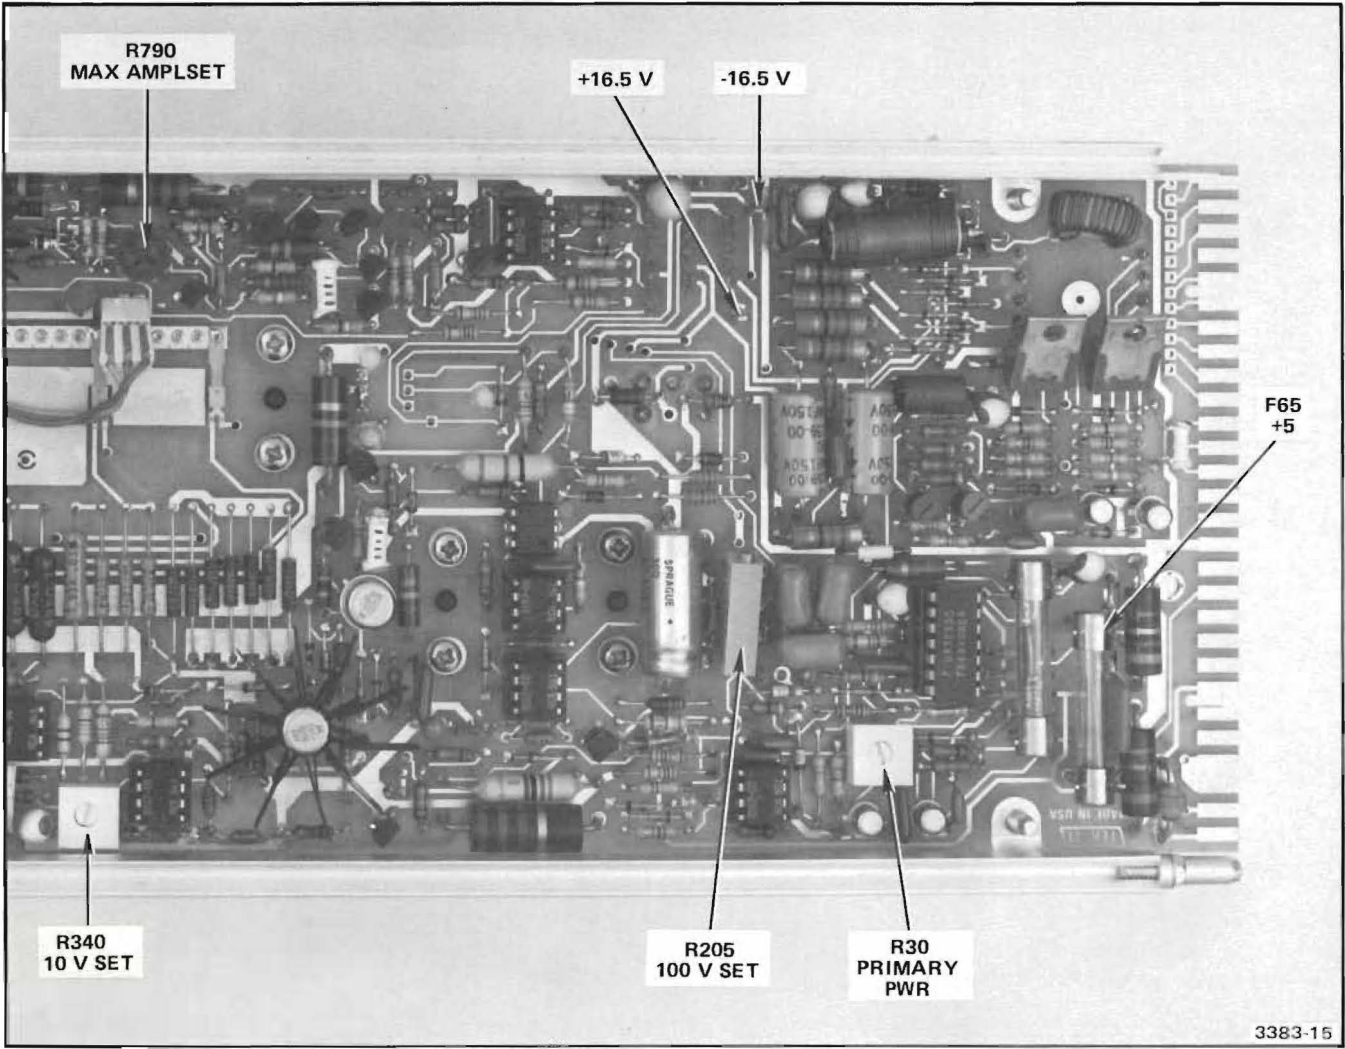

Fig. 4-5. Adjustment locations for the A1 Main circuit board.
- a. Connect the voltmeter high input lead to the +16.5 V test point. Refer to Fig. 4-5.
- b. Connect the voltmeter high input lead to the top end of F65. Refer to Fig. 4-5.